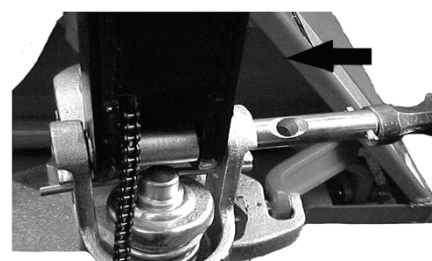

Fig. 6: Axle assembling
- a) Insert the tiller arm(1) into the pump piston, then use a hammer to insert the axle with hole into the hydraulic pump and tiller arm from the right to the left (Fig. 6).